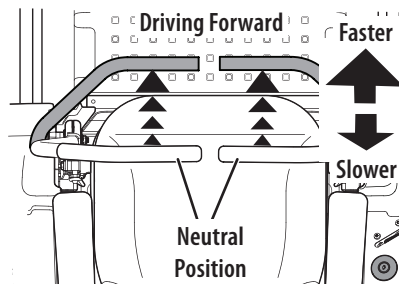

Figure 26
1. Slowly and evenly move both drive control levers forward. The mower will start to move forward (Figure 26).